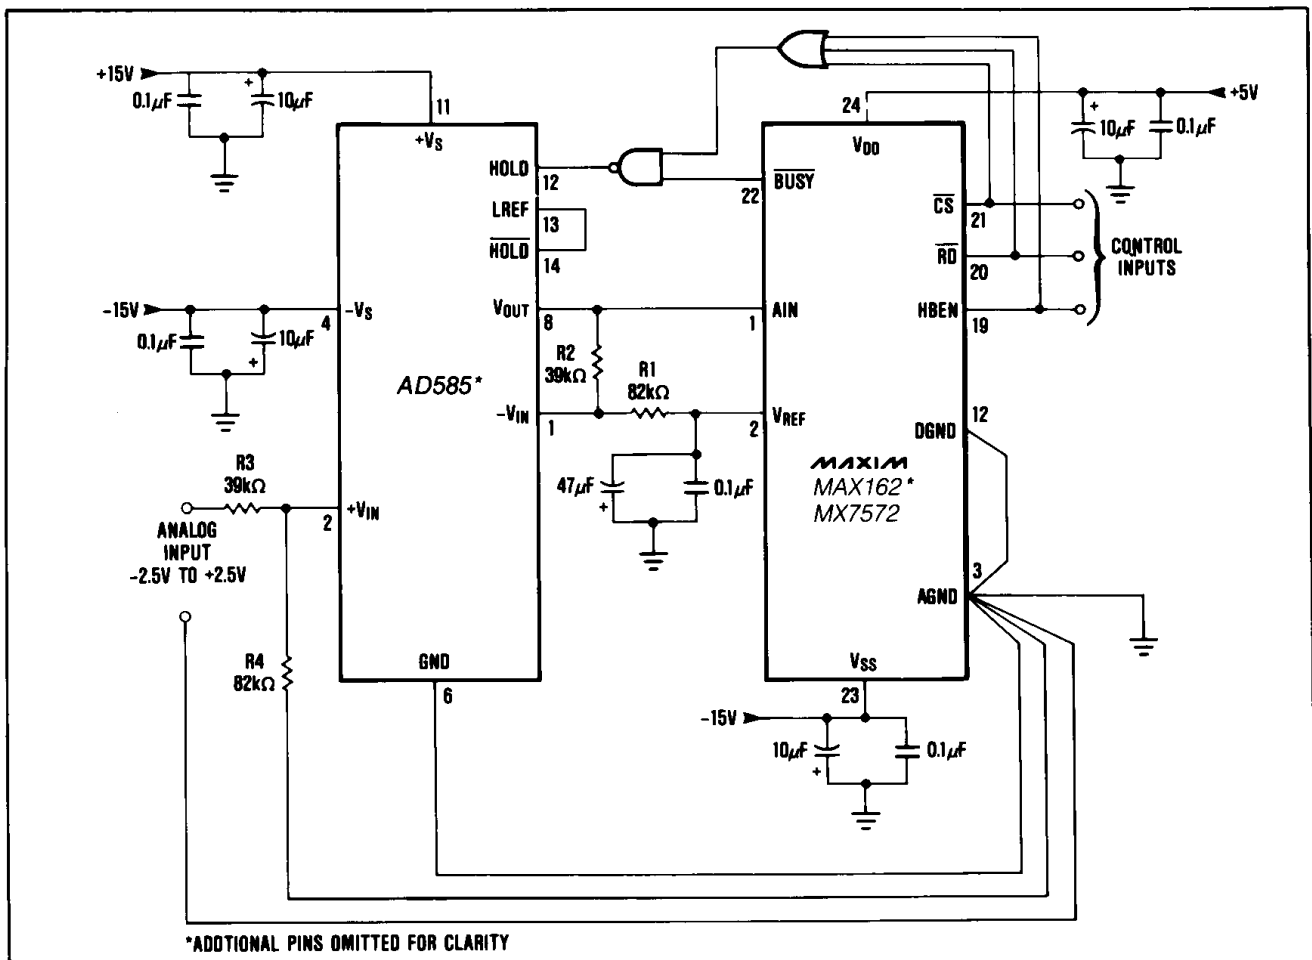

Figure 15. MX7572—AD585 Sample-and-Hold Interface
The  $\overline{\text{BUSY}}$  output from the MAX162/MX7572 may be used to provide the TRACK/HOLD signal to the sample-and-hold amplifier. However, since the ADC's DAC is switched at approximately the same time as the  $\overline{\text{BUSY}}$  signal goes low, the switching transients at the output of the sample-and-hold caused by the DAC switching may result in code dependent errors due to the aperture delay of the sample-and-hold. A NAND gate may be used to ensure that the sample-and-hold switches to the hold mode BEFORE any disturbances as shown in Figures 15 & 16. The NAND gate solution works only if the width of the RD pulse is wider than the RD to  $\overline{\text{BUSY}}$  delay in the MAX162/MX7572. If this is not the case, use a flip flop which is set by the falling edge of RD and reset by the rising edge of  $\overline{\text{BUSY}}$ .
**MX7572** Figure 15 shows an AD585 sample-and-hold to MX7572 interface. The MX7572  $\overline{\text{RD}}$  input and  $\overline{\text{BUSY}}$  output are used to put the AD585 in hold mode when a conversion is in progress. In this example the analog input range is  $\pm 2.5\text{V}$  but other voltage ranges can be configured differently as explained later.